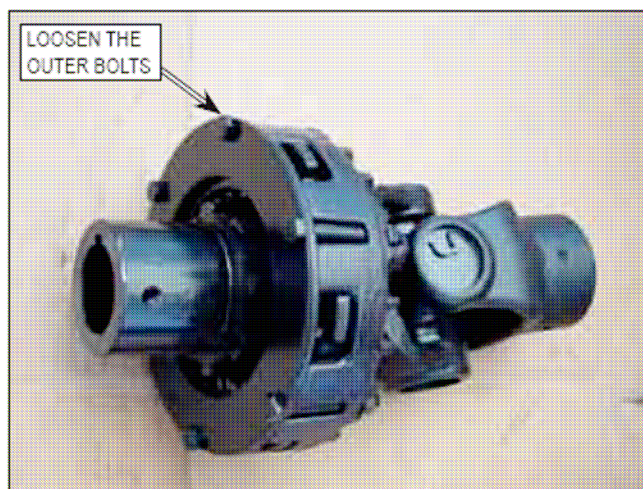

Figure 8.14
3. Loosen the bolts (shown in *Figure 8.14*) on the outside diameter of the clutch until all bolts are just loose, then tighten all bolts one half (½) turn.